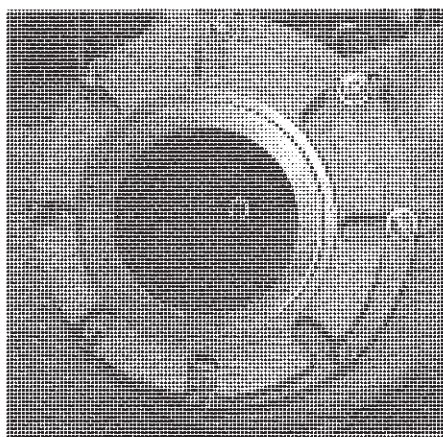

Fig. 37
3. ➤ If necessary, hose down pump with water and lay on side (Fig. 37).